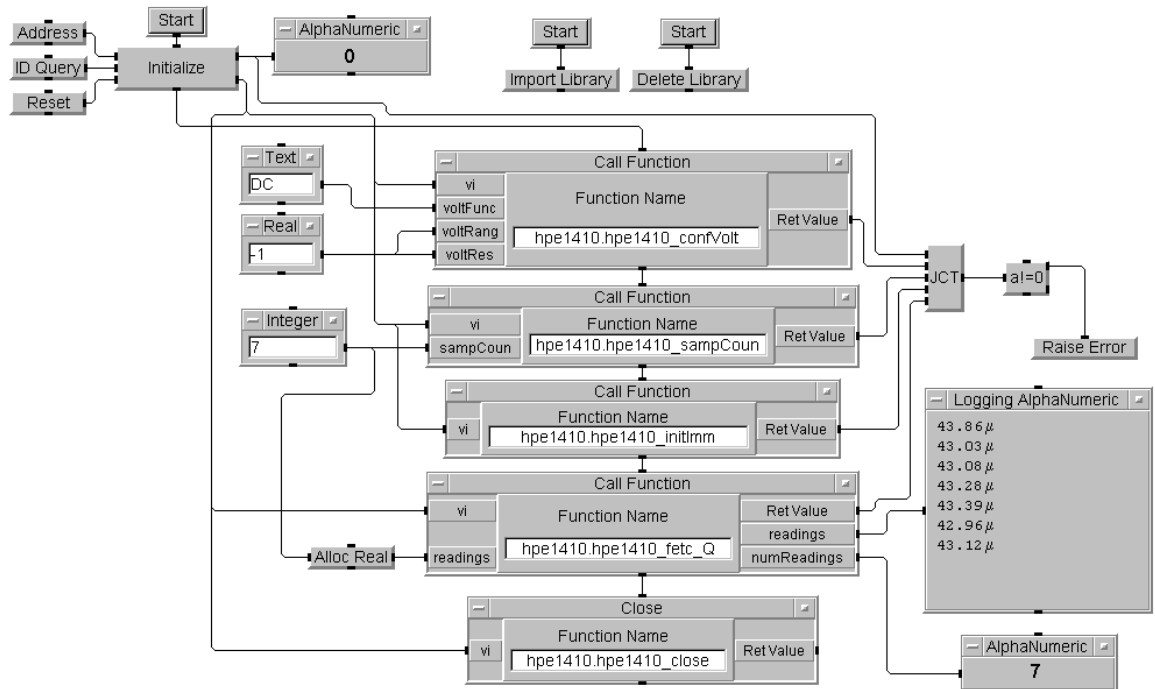

**Figure 7-8. More Complete Example: Using VXIplug&play Drivers**
**Using Arrays As Parameters.** The *VXIplug&play* specification states that the caller must allocate space for an array or text parameter. This means that VEE must allocate the array before passing it as a parameter to the *VXIplug&play* function, as shown in Figure 7-8.
Figure 7-8 shows a more complete example program that uses a *VXIplug&play* driver and allocates an array to be used as an output parameter.